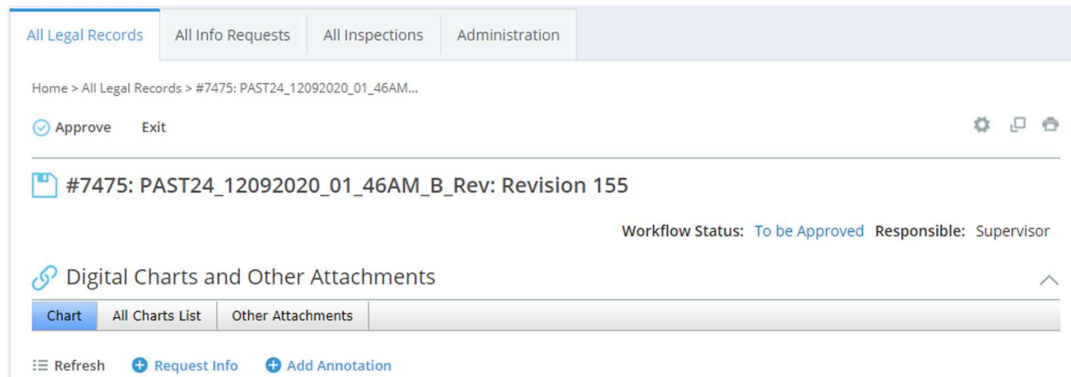

Figure 20: Record Approval
1. Click on *Approve* button at the top left of the legal record detail view section. As seen in Figure 20 below.